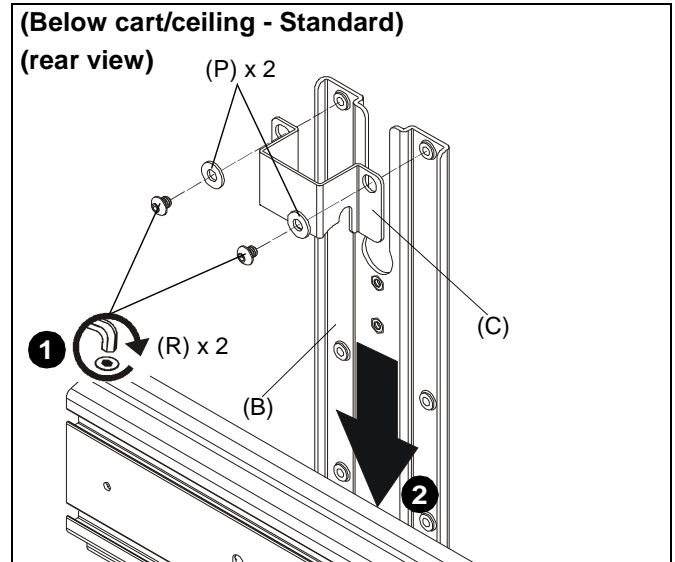

Figure 9
- Use two 1/4-20 x 1/4" button head cap screws (R) and two large washers (P) to secure support bracket (C) to main bracket (B). (See Figure 9)
- Slide main bracket (B) onto front of cart/ceiling mount head assembly until support bracket (C) rests on top of head assembly. (See Figure 9)